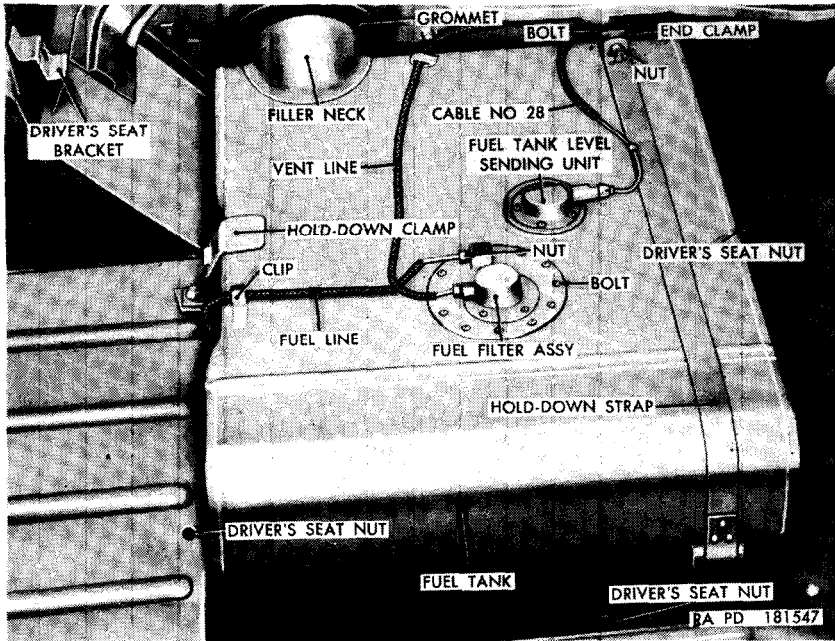

Figure 50. Fuel tank, fuel filter assembly, and fuel tank level sending unit—seat removed.
133. Fuel Filter Assembly (fig. 50)
- (1) *Removal.* Unscrew the nut on the rear of the fuel line (B) from the elbow (D). Unscrew the nut on the front end of the fuel line (fig. 50) from the fuel filter assembly. Bend the clip (fig. 50) securing the fuel line to the tank and remove the line by pulling it through the floor pan from the top.
- (2) *Installation.* Position the fuel line (fig. 50) in the vehicle by inserting through the floor pan from the top. Screw the nut on the front end of the line into the fuel filter assembly, and bend the clip on the top of the tank down over the fuel line. Screw the nut on the rear end of the fuel line (B) onto the elbow (D). On early production vehicles, install fuel and vent lines as described in (a) through (c) below, to prevent chafing by the driver's seat frame support gusset.
(fig. 50)